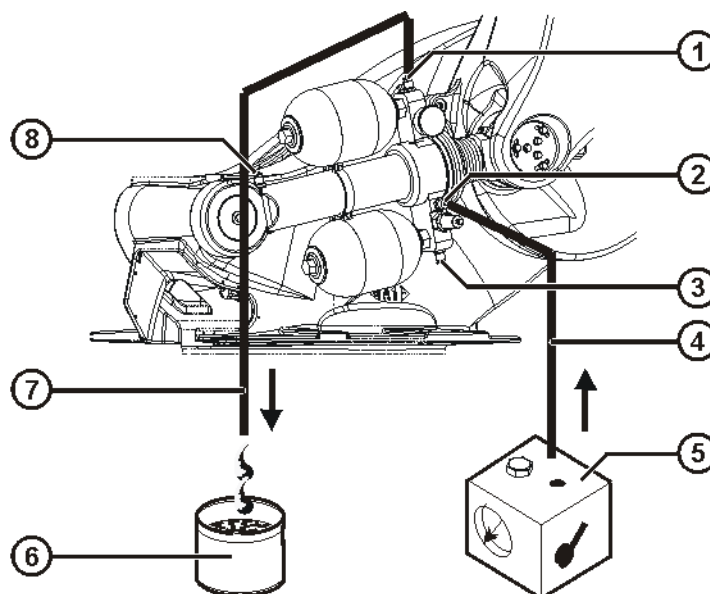

Fig. 9-13: Topping up the hydraulic oil
19. Unscrew the screw cap on the filler neck and connect the hydraulic tube (>>> Fig. 9-13 ).